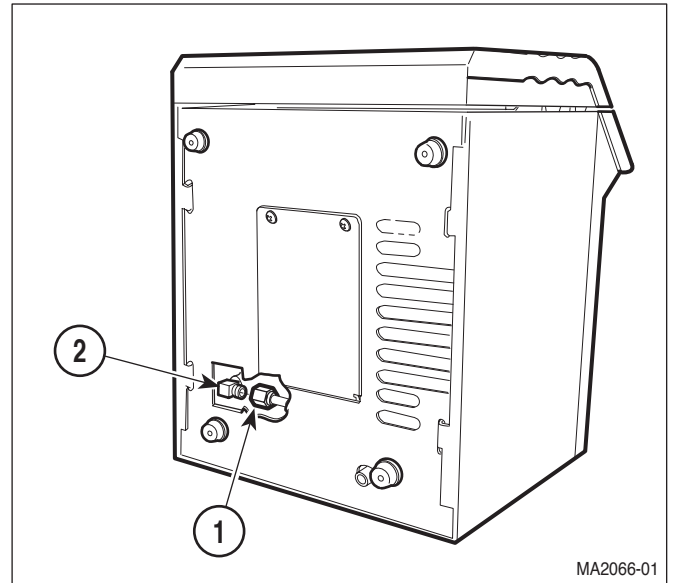

Figure 4-24. Condensing Tank Assembly Fill Tube Disconnection / Connection
- (1) Drain water from condensing tank.
- (2) Turn sterilizer onto its back.
- (3) Disconnect fill tube (1, Figure 4-24) from elbow (2).
- (4) Turn sterilizer upright.
- (5) Remove top cover (Refer to para 4.2).
- (6) Remove back panel (Refer to para 4.5).
- (7) Remove bellows assembly (Refer to para 4.7).
- (3) Connect wire (4) to terminal (5).
- (4) Install hose clamp (1) and sight/drain tube (2) on condensing tank assembly (3). Tighten hose clamp.
- (5) Install bellows assembly (Refer to para 4.7).
- (6) Install back panel (Refer to para 4.5).
- (7) Install top cover (Refer to para 4.2).
- (8) Turn sterilizer onto its side.
- (9) Connect fill tube (1, Figure 4-24) to elbow (2).
- (10) Turn sterilizer upright.